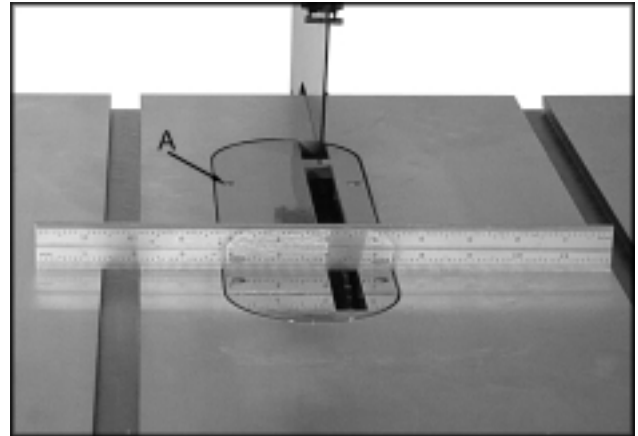

Fig. 9
3. Adjust the table insert flush with the table by turning four leveling screws (A, Fig. 9) and using a straight edge.